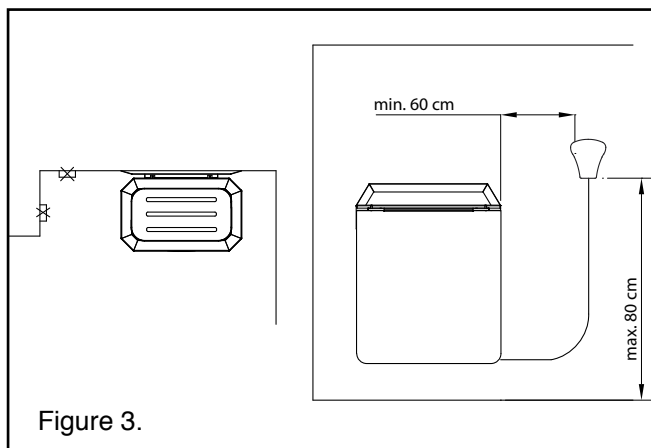

Figure 3.
- The installation height of the control unit is a maximum of 80 cm and a minimum of 60 cm from the side of the heater (see Fig. 3).